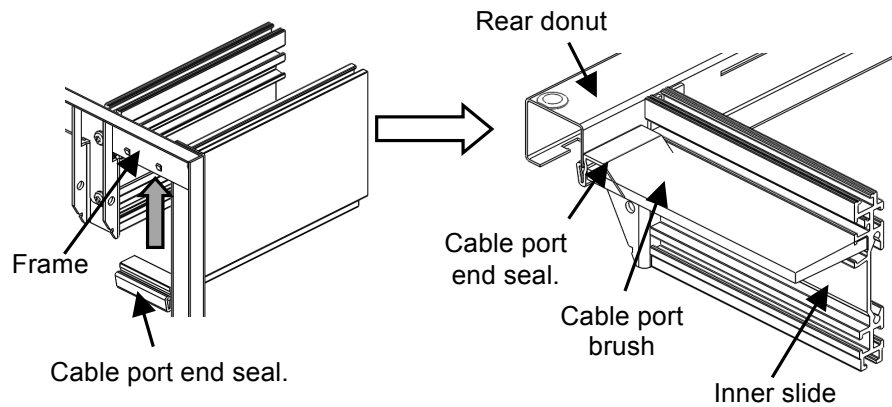

Fig. 6
5. Insert Cable port end seal to rear and front frame (Fig. 6).